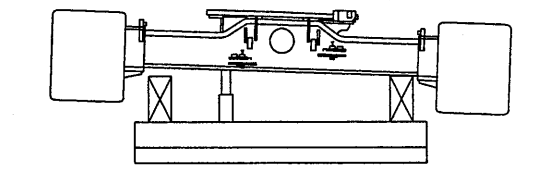

Fig. 11-41
- (3) Fit jacks to the appropriate positions on the axle (2 pos. on one side), and jack up the machine slightly. (Fig. 11-41)